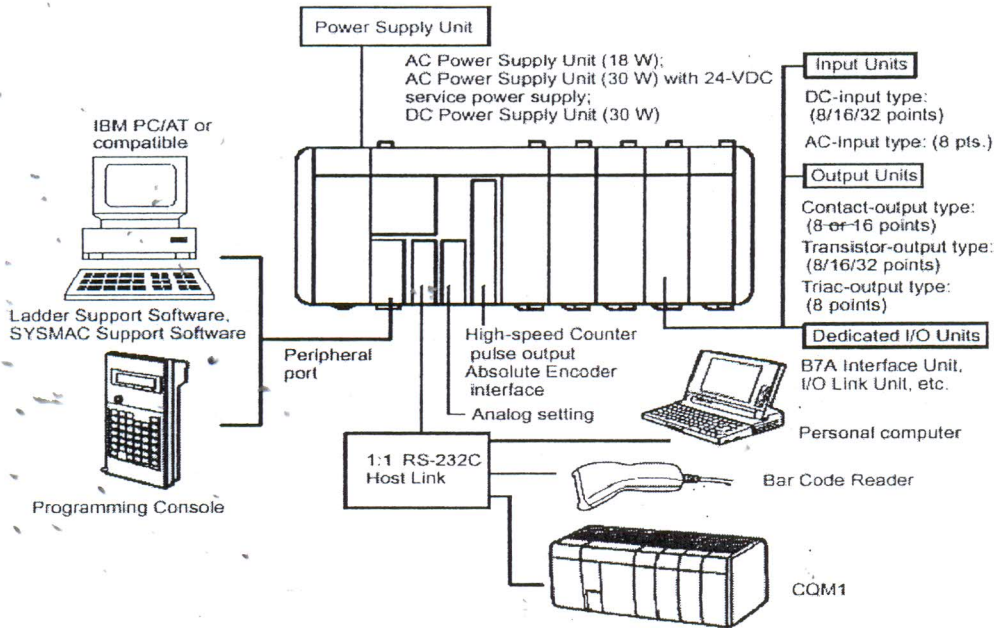

Figure 5: PLC Structure/Hardware
- (a) **Figure 5** shows a PLC structure/hardware. Based on figure below answer the following questions